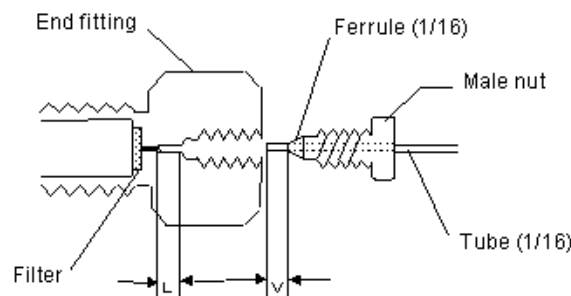

Fig. 1 Column connection
1. The column joint is of the male nut type for tubing of 1/16 inch OD. Check that the piping joints of the system fit correctly and that the ferrule tips are deeply inserted into the joints. (See Fig. 1.)
2. See Fig. 1 for the column connection. If the tubing is inappropriate, especially if a tube for a different type of column is used, the length after the ferrule tip (V in Fig. 1) is often different from the end fitting length L, and a problem may occur.